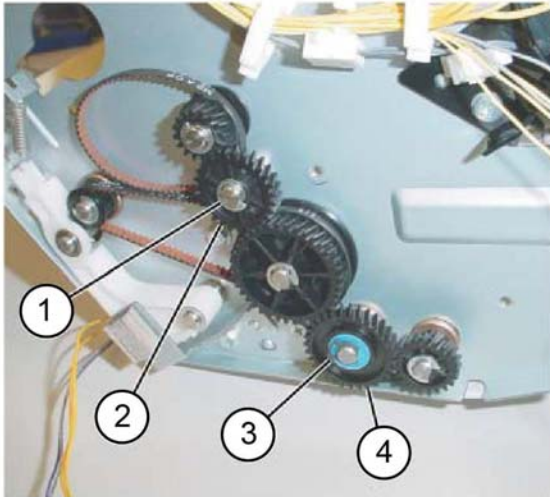

Figure 1 Gear removal
3. Remove the gear, Figure 1:
- a. Remove the E-clip (1).
- b. Remove the gear (2).
- c. Remove the KL-clip (3).
- d. Remove the gear (4).